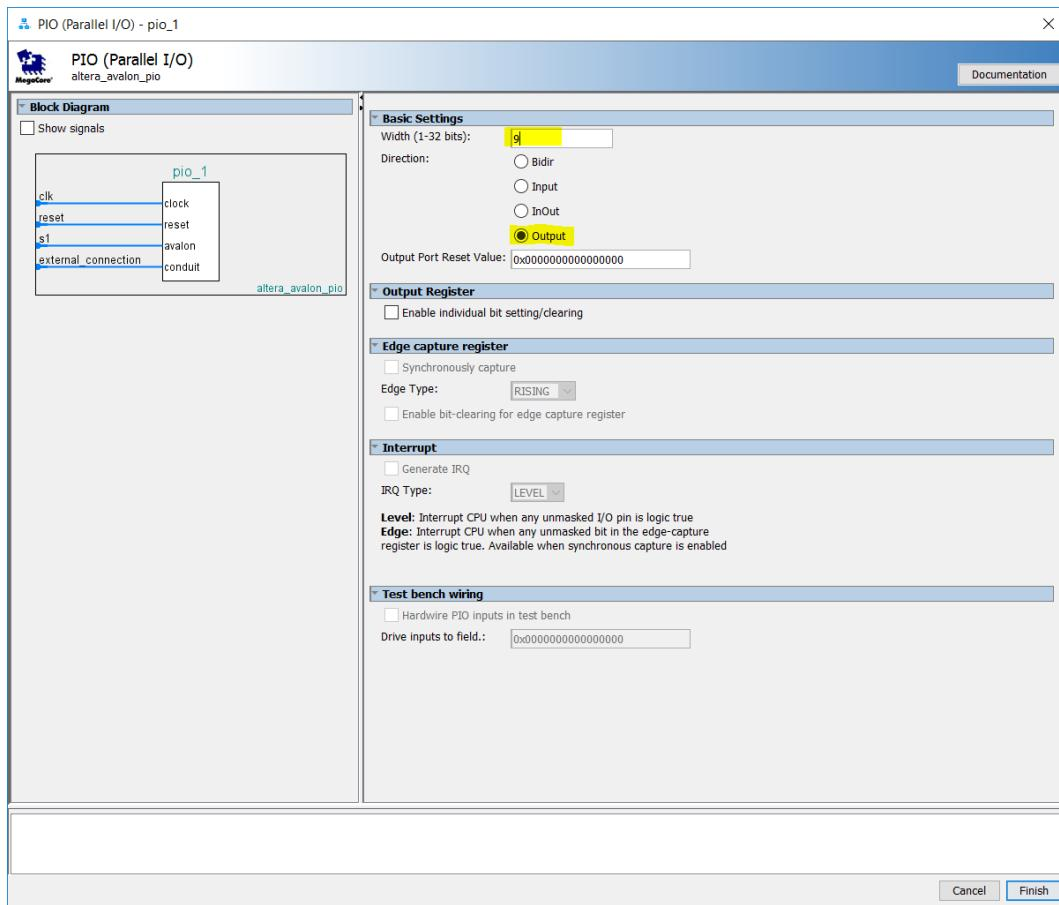

Figure 16: Parallel IO Configuration Panel for LED Outputs
- When you have setup your LED output component interface as in Figure 16, click **Finish**.